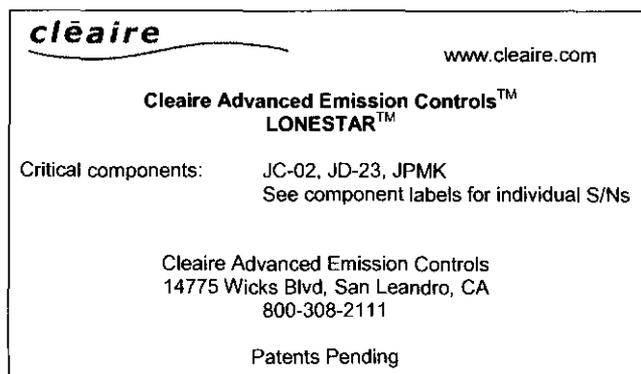

Figure 16. CARB-verified system label.
3. The system label information (see Figure 16).